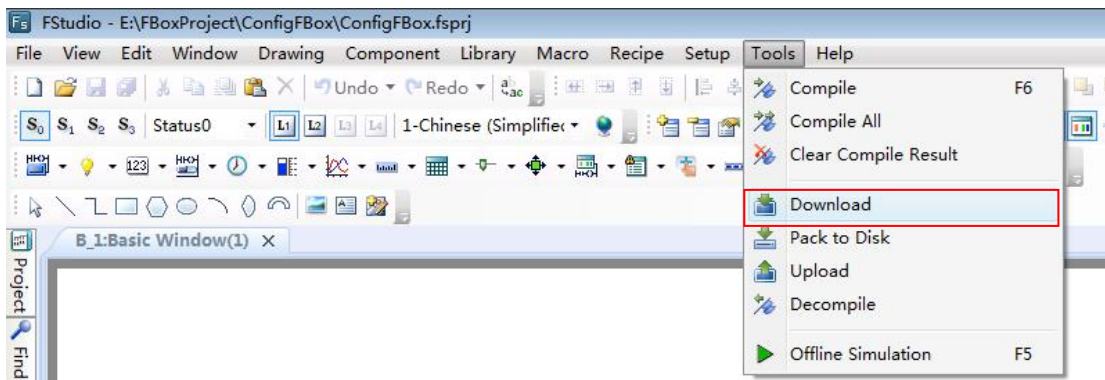

Fig. 4.2-5 Download the configuration
(5) Click the "Confirm" button and download the configuration above to FBox. Click the "Download" command in the "Tools" menu (as shown in Fig. 4.2-5), or click the button "  " in the toolbar, then the FsTools dialog is popped up and the download interface is displayed. The "Force download" option and all the "delete" options are necessary to check to ensure the successful configuration when the FBox device is used in the field for the first time, as shown in Fig. 4.2-6.